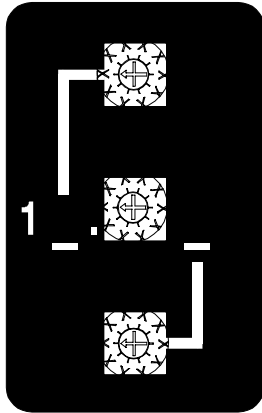

Figure 8.1
to 3, and the bottom switch to 8 (see the figure 8.1). This will provide you with the proper charging voltage. The tens digit is always a one (1) and cannot be changed. **BE SURE EACH SWITCH IS SET ON A NUMBER AND NOT BETWEEN NUMBERS.** If a switch is set between numbers, the output current will go to zero and the yellow charging LED will flash.